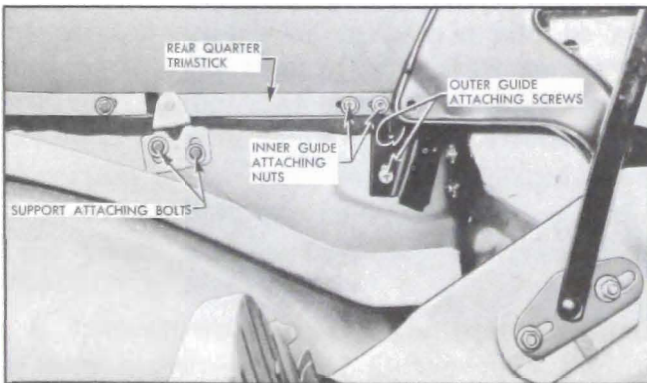

Figure 13-99—Rear Quarter Trim Stick and Support Assembly
5. At each rear quarter area remove two support attaching bolts and washers securing rear quarter trim stick and support assembly rear quarter inner panel. (See Figure 13-99.)
37. Position front inner guide on outboard edge of rear quarter trim stick and secure in place by two nuts and washers. (See Figure 13-99).
38. Insert end of inner guide into outer guide channel and install two bolts securing trim stick and support assembly to rear quarter inner panel. Install previously removed bolts from end of rear trim stick. (See Figure 13-99).